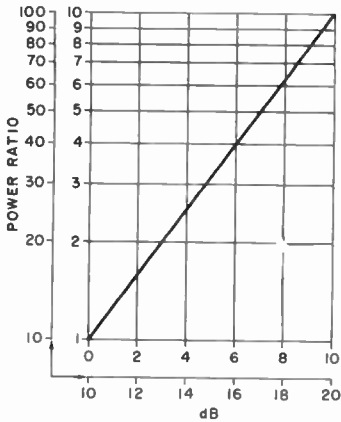

Fig. 2. Use this graph in converting power ratios to decibels. Scales are doubled over.
Noise figure is a dimensionless quantity and is often expressed in decibels. To convert from the linear quantity to dB, use the expression $NF \text{ (in dB)} = 10 \log_{10} (NF)$; or refer to the graph in Fig. 2. Unless you are skilled in the use of logarithmic quantities, it is wise to convert back to a linear quantity before making calculations.